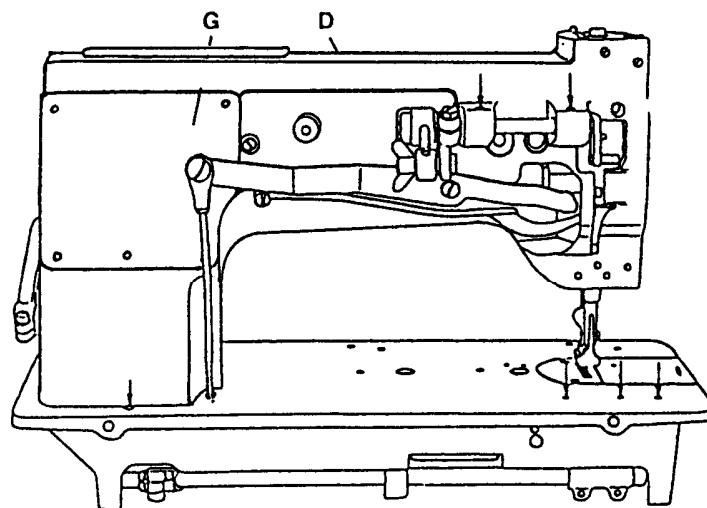
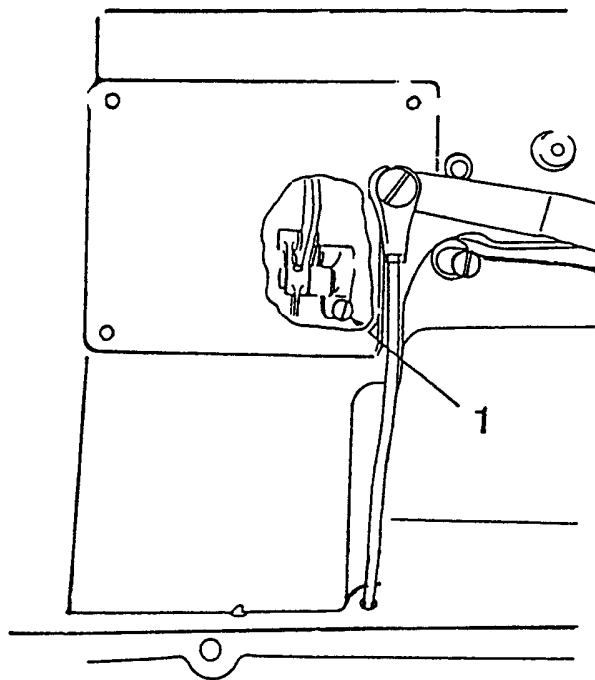

Fig.3
Fig.15
## ADJUSTMENT OF THE PRESSURE ON THE MATERIAL (Fig.3)
1. Remove the cover (G, Fig.3) and loosen the screw (1, Fig.15) slightly.